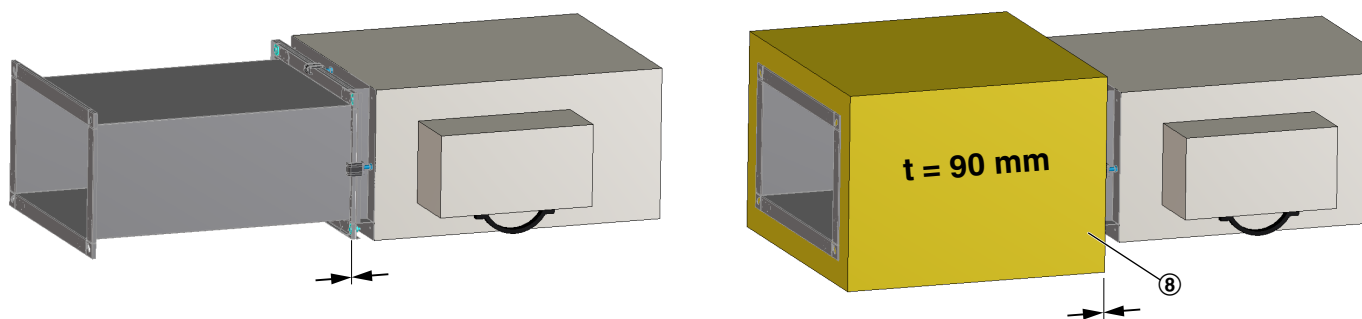

Fig. 6: Insulate the ductwork
4. ▶ Insulate the ductwork according with Fire Duct Slab ( Fig. 6 /8) to the manufacturers detail. Insulation should finish at the end of the ductwork (Arrow).